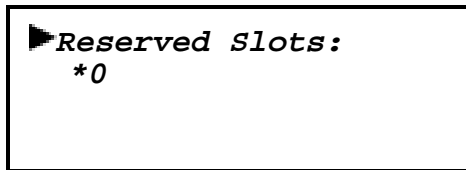

Figure 2-30 Set Reserved Slots Submenu
2. Scroll down on the Configure Submenu until you see ‘Set Reserved Slots,’ and select that option. The screen shown in Figure 2-30 appears.